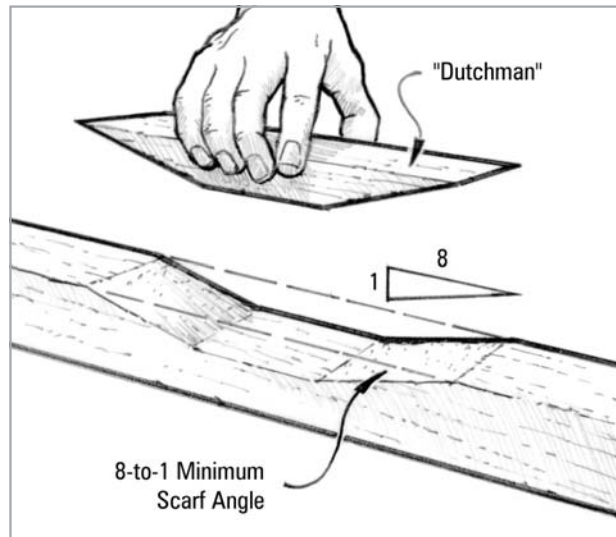

Figure 3-3 Bond a dutchman into larger cavities. Bevel the sides of the cavity and the dutchman to match.
1. Prepare the dutchman. Use the same kind of wood if possible. Carve the cavity to a geometric shape if necessary to make shaping the plug easier. Bevel the sides of the cavity. The longer the bevel on the sides running across the grain, the stronger the repair (*Figure 3-3*). An 8-to-1 bevel (8" long for every 1" deep) or greater will be close to the original strength of the wood. Check the dutchman for fit. Thickened epoxy will fill a fairly large gap, so the fit doesn't have to be perfect. Prepare the surfaces for bonding (Section 8.4.1).